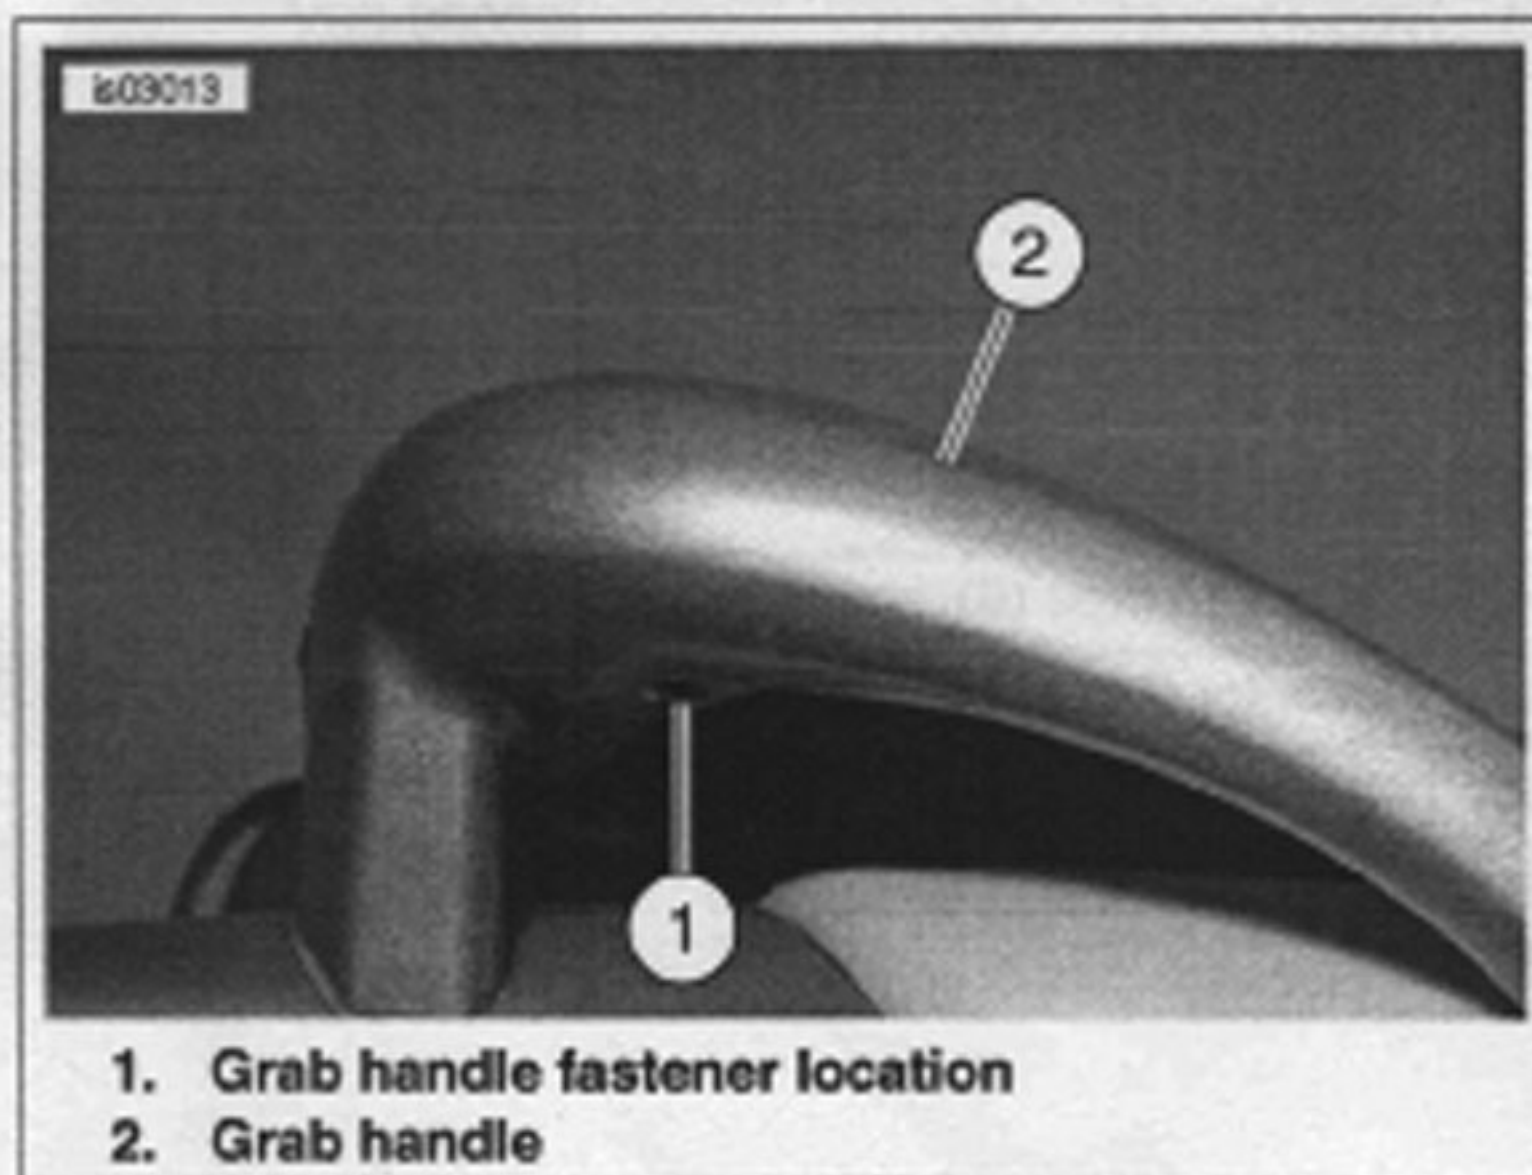
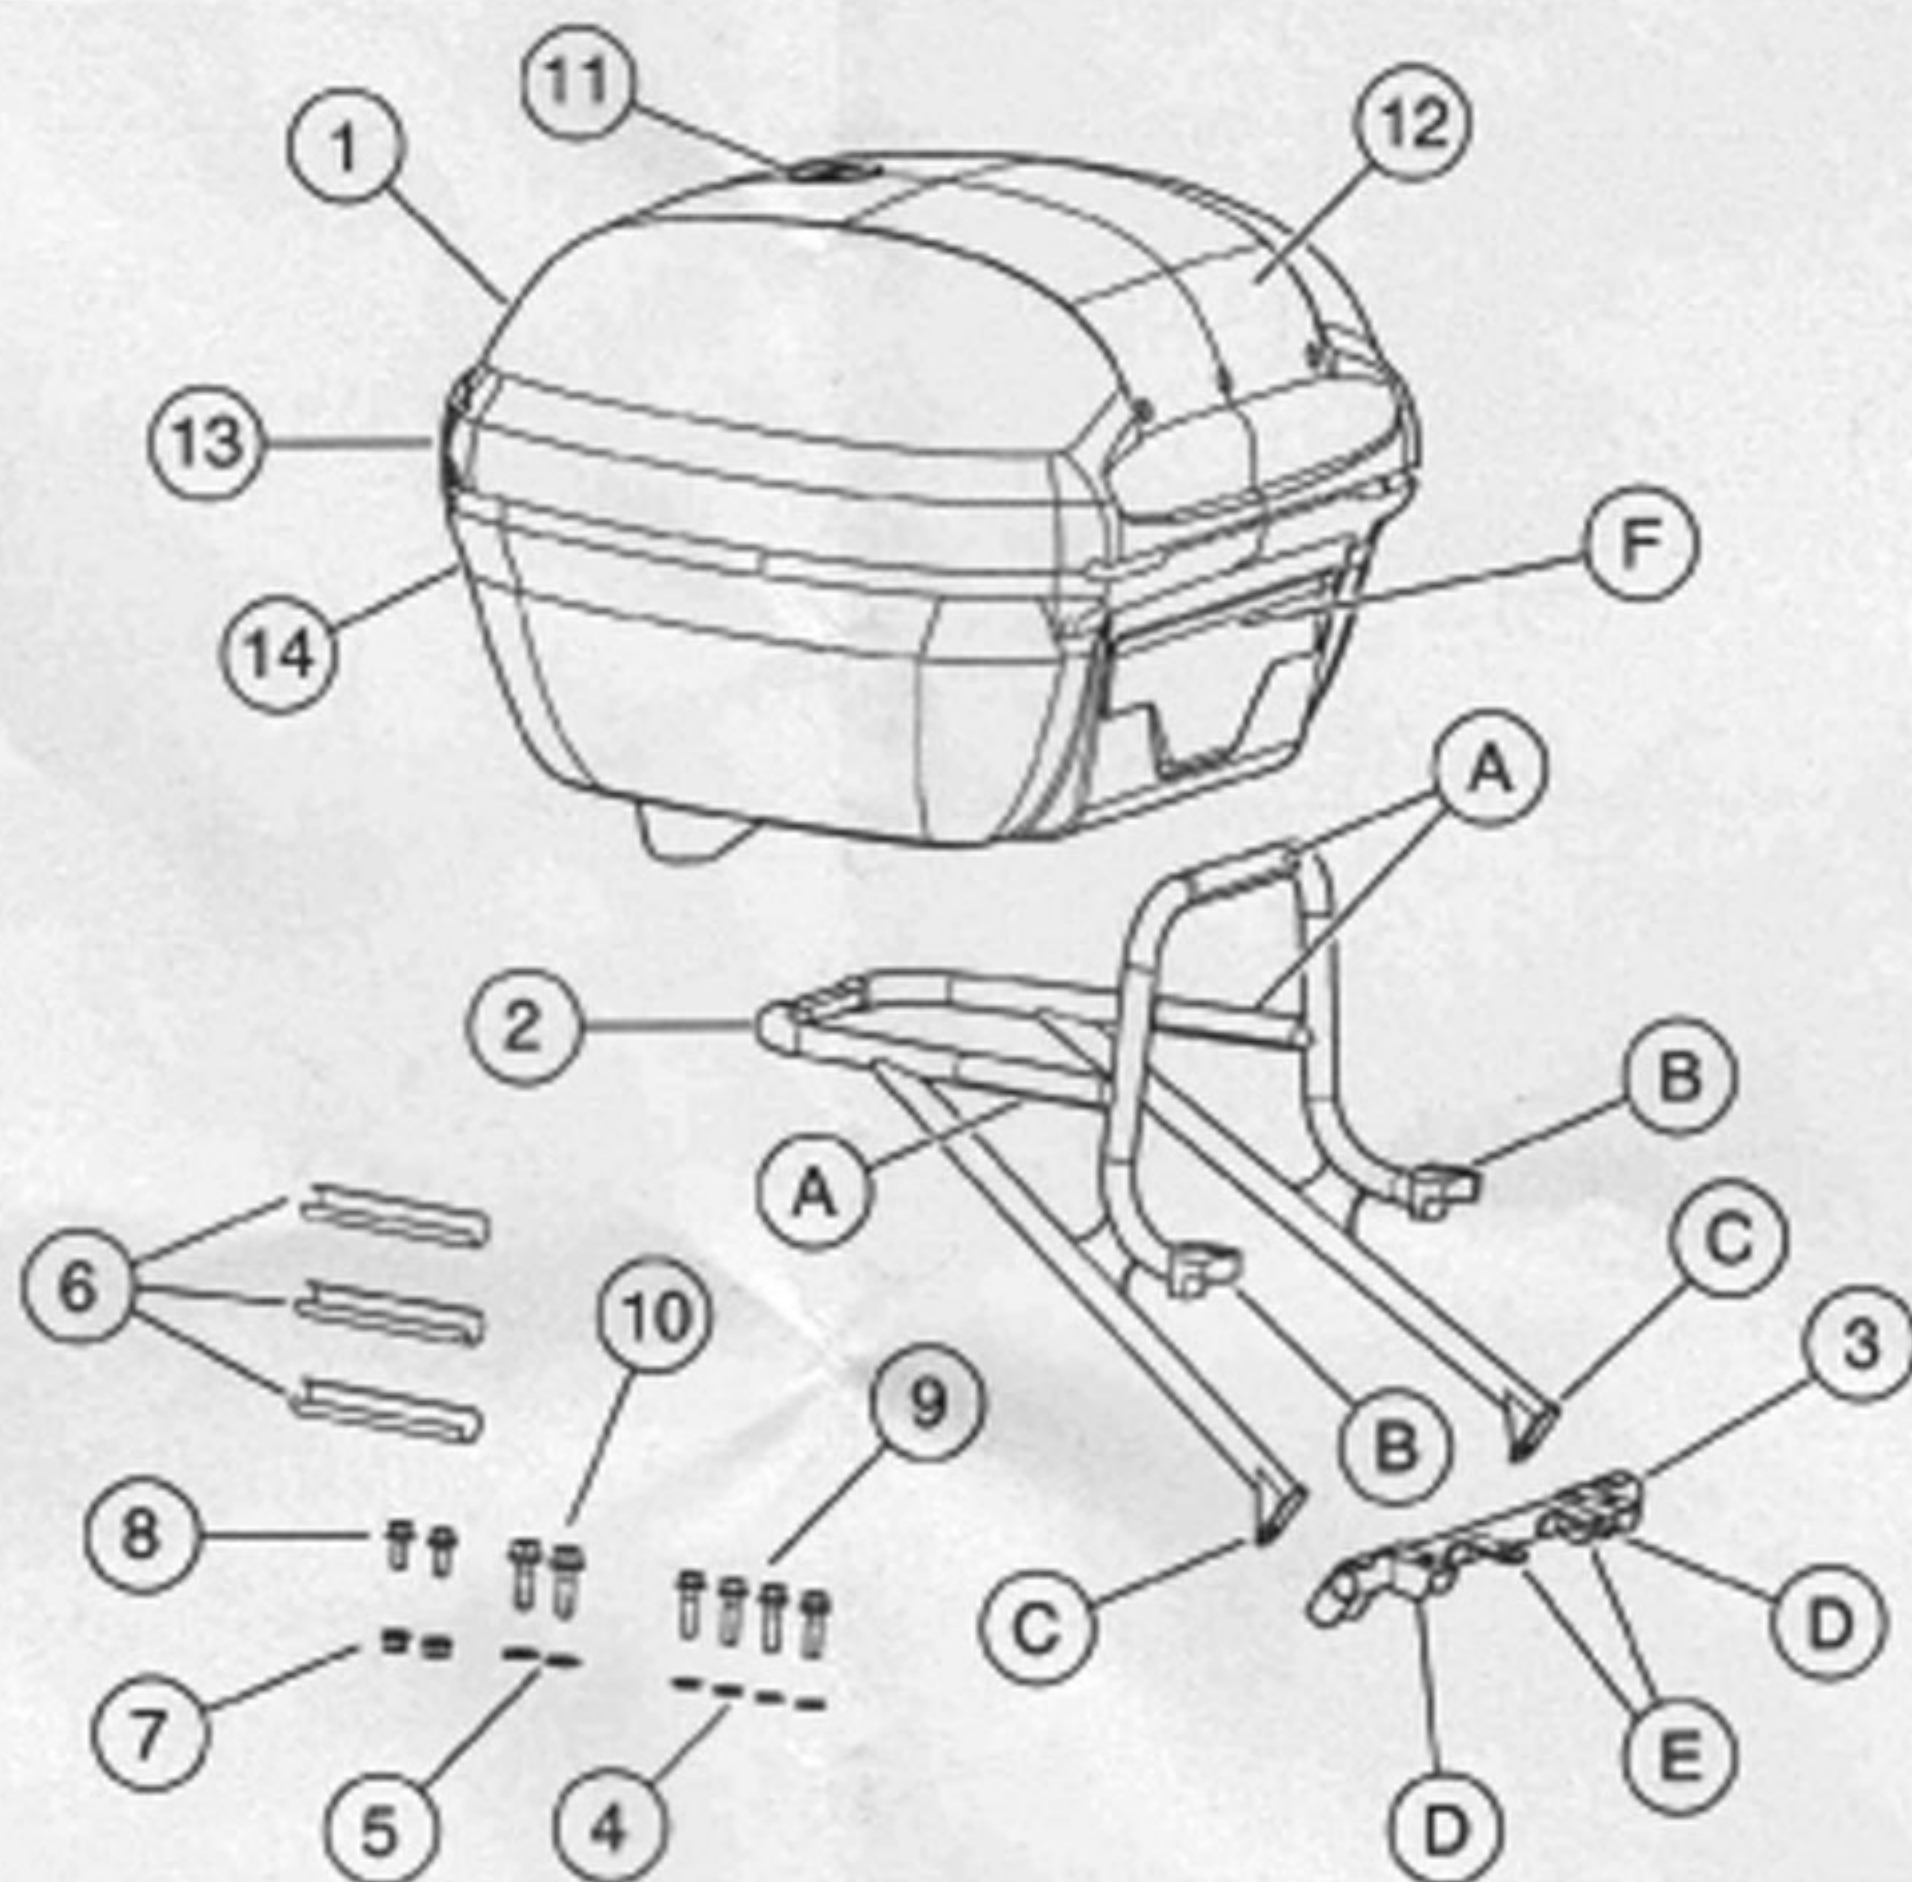

Figure 5. Grab Handle
Figure 7. Service Parts: Ulysses Topcase
- See Figure 7. From the kit, install the cross bar mount (3) to the underside of the seat pan using four 1/4-20 x 1.0 inch fasteners (9) and four 9/16 inch O.D. Belleville washers (4) to the cross bar inner mounts (E) and outer mounts (D). Thread the fasteners in but do not tighten at this time.
- From the kit, install the topcase mounting bracket (2) upper mounts (B) to the grab handle (Figure 5, item 2) by inserting two 5/16-18 x 1.0 inch hex head fasteners through 11/16 inch O.D. Belleville washers and mount points (B) into the forward lower grab handle (Figure 5, item 1). Thread the fasteners in but do not tighten at this time.
- Install two 1/4-20 x 5/8 inch hex head fasteners (8) with 1/4 inch nuts (7) at the interface between the cross bar (3) and mount bar arms (C). Thread the bolt in but do not tighten at this time.
- See Figure 7. Remove the backing from the three protective tape (6) pieces and install onto mounting bracket (2) areas as shown (A).